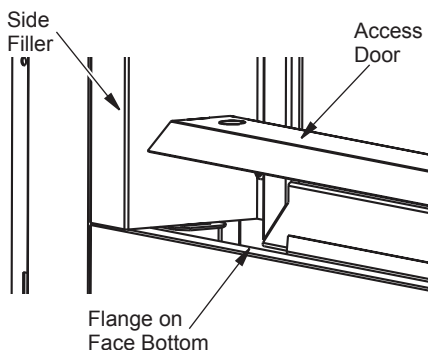

Figure 22 - Access Door for See-Through Applications
1. Place access door into rectangular opening in front of the glass door with the slanted side facing forward. The slanted surface will slide underneath the flange of the bottom face. Insert tabs on side of access door into slots on retaining brackets (See Figure 22).
1. Remove Access Plate (See Figure 22).